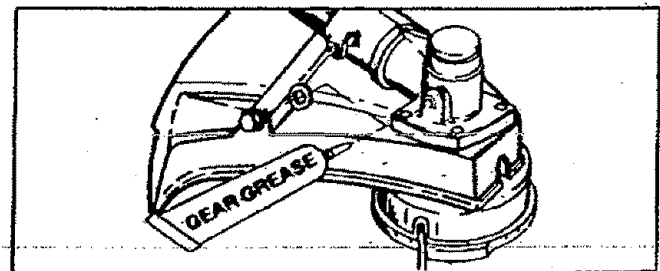

Figure 33
1. Remove the Screw and Washer on the Gear Box using a wrench. Figure 33.